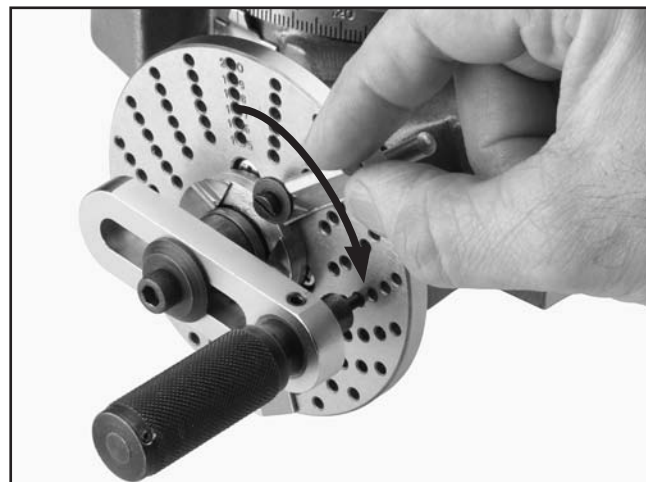

Figure 19. Rotating the sector arm to rest against new position.
- Rotate the sector arm so the arm rests on the pin once again (see **Figure 19**).